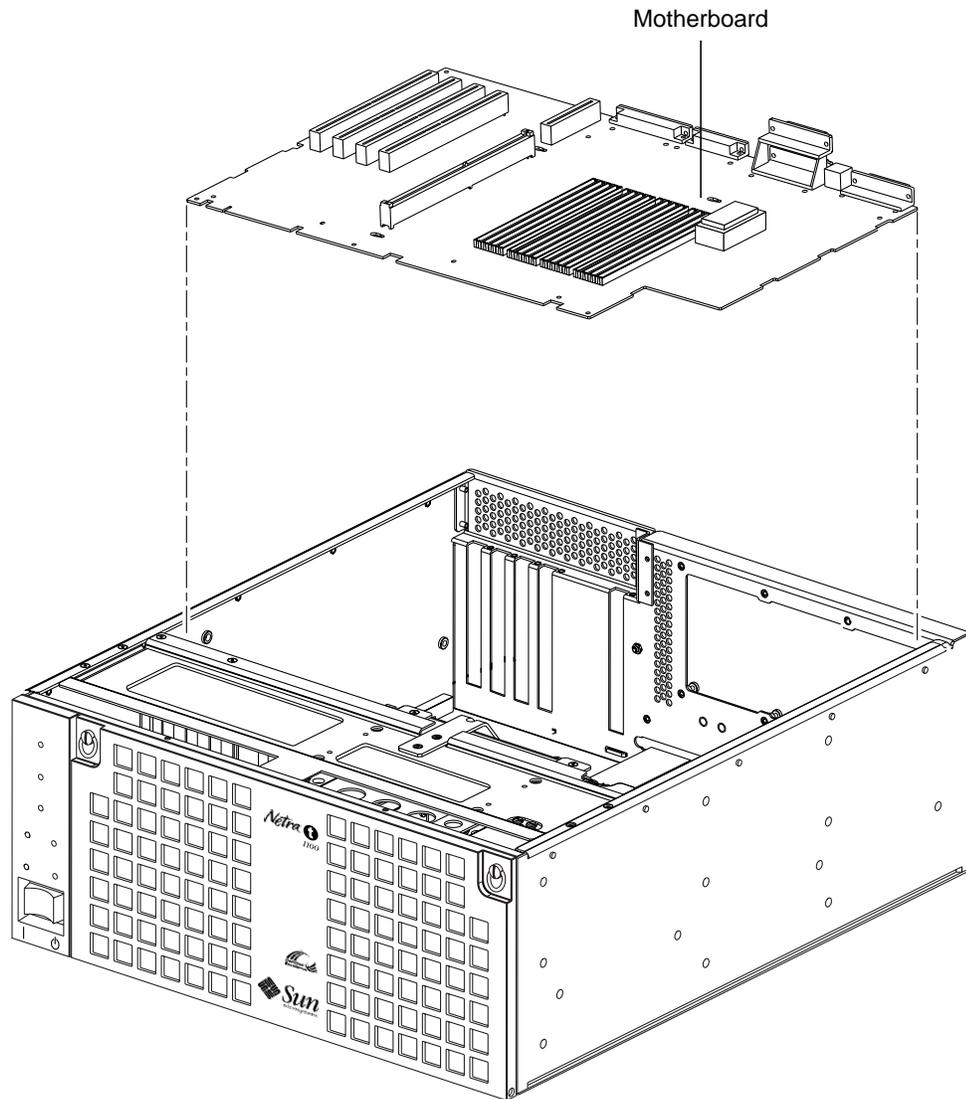

FIGURE 10-11 Removing and Replacing the Motherboard (Part 2 of 2)
2. **Grasp the handle and the rear connector panel and slide the motherboard into the chassis (See FIGURE 10-11 on page 97).**